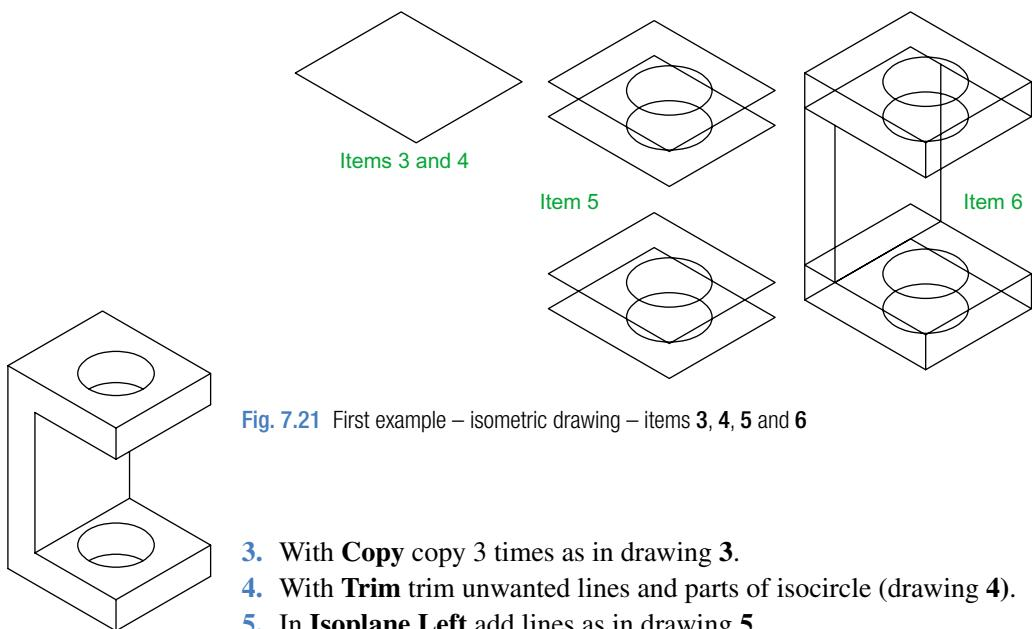

Fig. 7.21 First example – isometric drawing – items 3, 4, 5 and 6
4. Call **Ellipse** tool and set to isocircle and add the isocircle of radius 20 centred in its correct position in the outline of the top (**Fig. 7.21**).
6. Add lines as shown in **Fig. 7.21**.